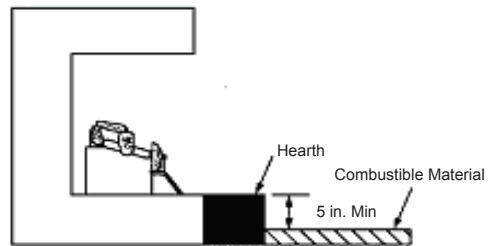

Figure 8 - Minimum fireplace clearances above combustible flooring
- If combustible materials are less than 14 inches to the fireplace, you must install appliance at least 5 inches above the combustible flooring (see Figure 8).